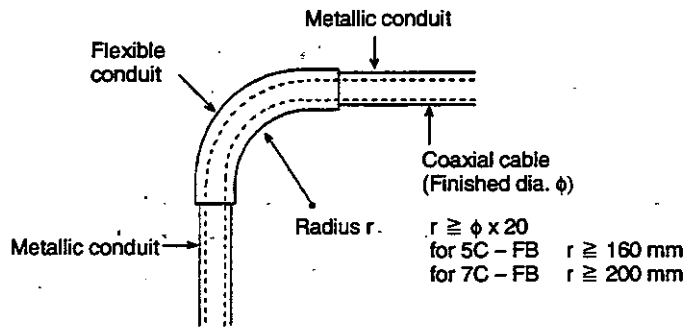

Figure 6.11 Metallic Conduit Bending
- b) Use a metallic conduit in the bent part of the coaxial cable so that the metallic conduits remain connected each other. For 5C-□□ and 7C-□□, the radius of curvature must be at least 20 times the outside diameter of a finished cable as shown in Figure 6.11.